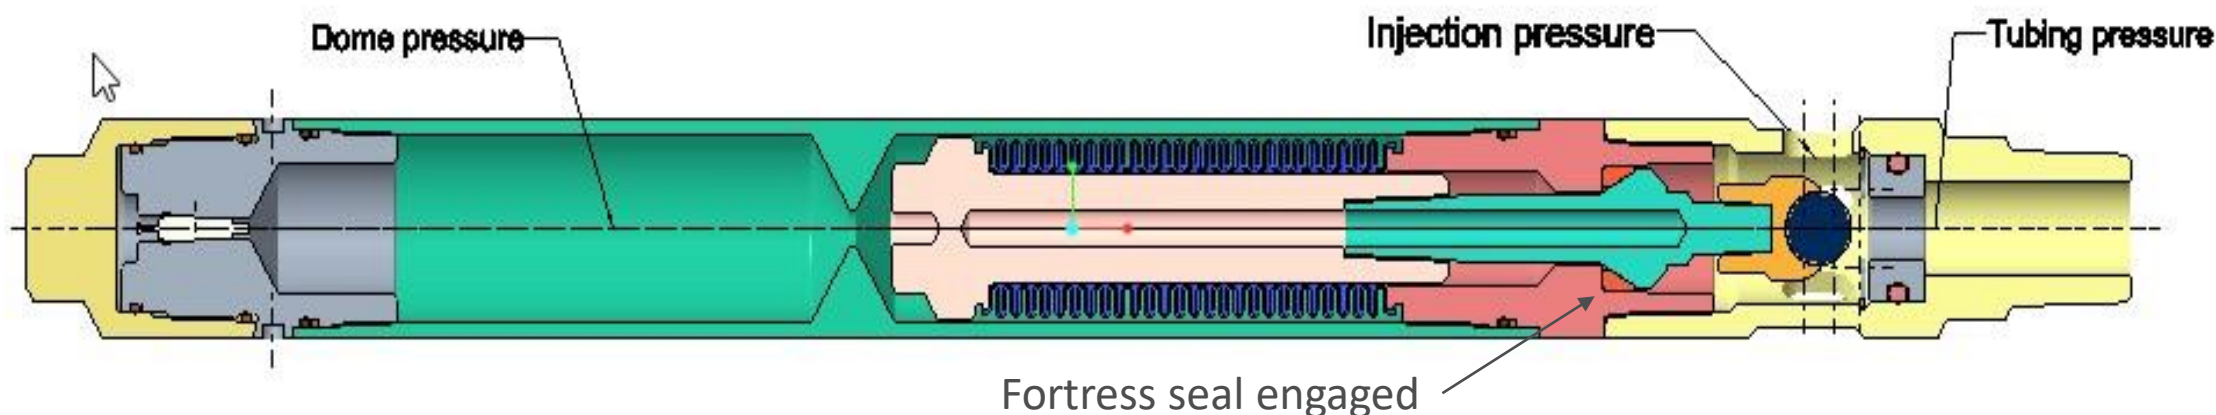

Figure 9
- Conventional valve with external stem seal engaged and valve in fully open position. Path of injection pressure to bellow is closed. See figure 9 below.